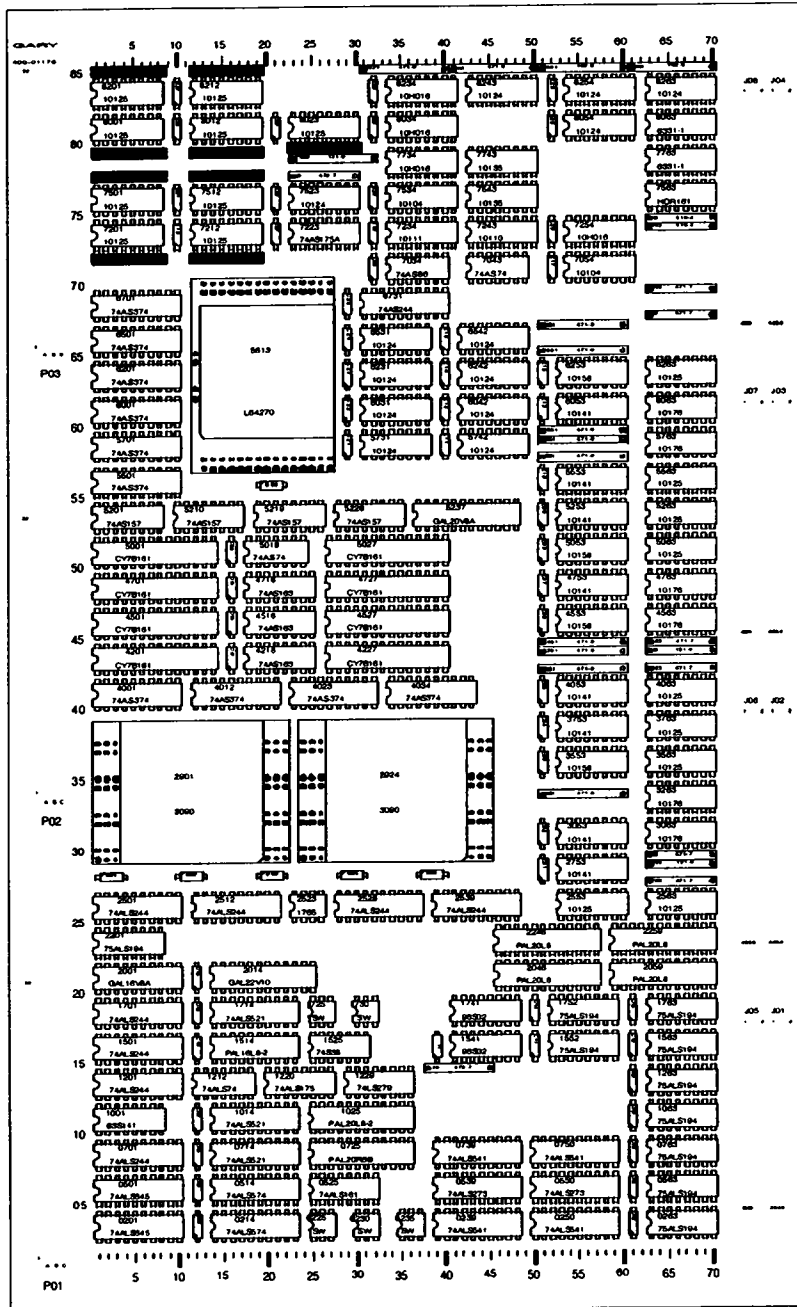

Figure 2. . D138 Digital Switch Module Terminator Locations
6. Remove the terminators from D138 Digital Switch module of Board set #1. See figure 2 for the locations of the 9 Zip terminators that need to be removed, locations 7101, 7701, 7901, 8501, 7112, 7712, 7912, 8512, and 7923. D138 Digital Switch module of Board set #2 was shipped with the terminators removed.